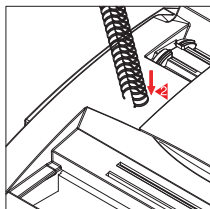

Figure-4
- ▶ Avoid taking wrong wire comb; you can measure the wire comb size as shown figure-4.